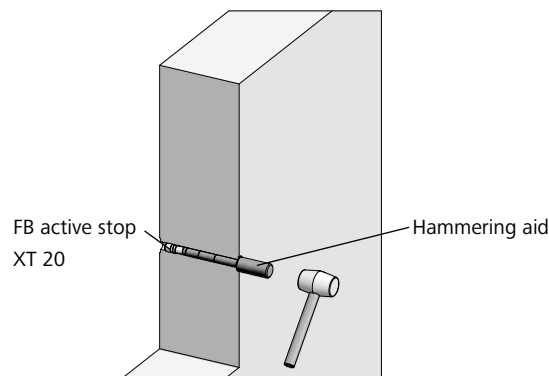

Fig. 78.4
3. Drive the FB active stop in further using the hammering aid (delivered with the FB active stop XT 20 set) and hammer (Fig. 78.4). To enable the FB active stop to be positioned correctly in the tie hole, the hammering aid has marker rings for the wall thicknesses 15, 20, 24, 25 and 30 cm. For this purpose, it is shortened at the marker ring corresponding to the desired wall thickness. The hammering aid must be driven in up to the stop (Fig. 78.4).